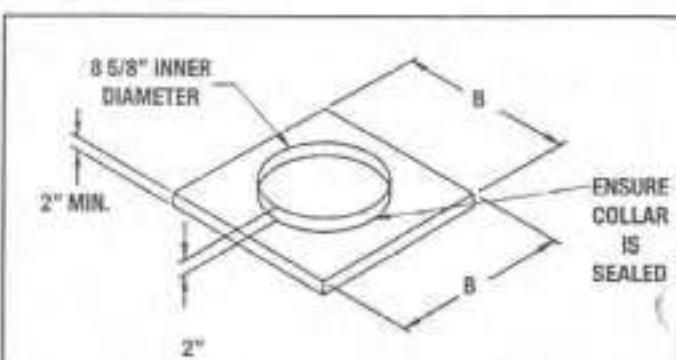

FIGURE 4-15 FIELD CONSTRUCTED CHASE COVER
1. Construct and cover the chase with a field-constructed flashing and collar. Refer to Figure 4-15 for construction parameters.